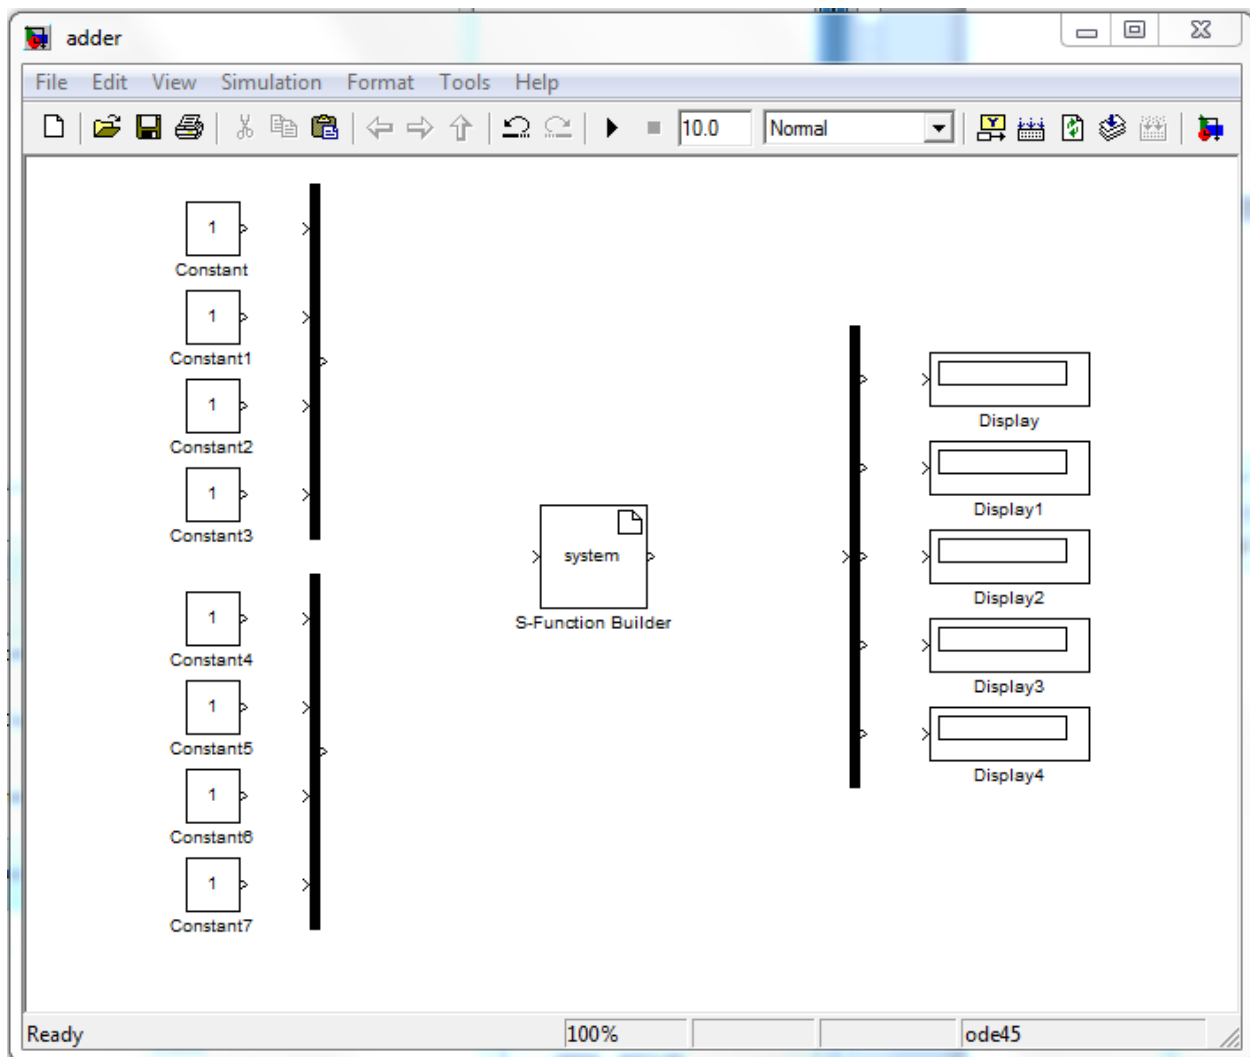

Figure 2
2. Select “Microsoft Windows SDK 7.1 (C)” as the compiler.
3. Create a new Simulink model. Insert 8 Constant Blocks, 2 Muxs, 1 Demux, and 5 display blocks. Insert the S-Function Builder block located under “User-Defined Functions”. Your Simulink model should look like Figure 2.